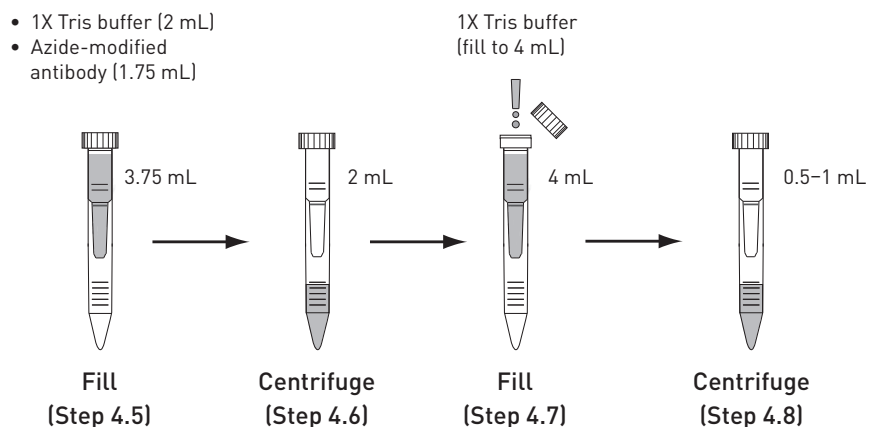

Figure 6 Purify and concentrate azide-modified antibody
- 4.5 Add 2 mL of 1X Tris pH 7.0 (or TBS) and 1.75 mL of the azide-modified antibody from Step 3.3 to the filter device of large antibody concentrator (Component H) as shown in Figure 6.